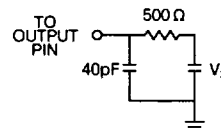

Figure 1. AC Output Test Load ($V_x = 2.0V$ except for t_{DIS} and t_{ENA})
1. Transition is measured +500mV from steady-state voltage with loading specified in Figure 1. $V_x = 0V$ and $2.6V$.
Output Load	See Figure 1